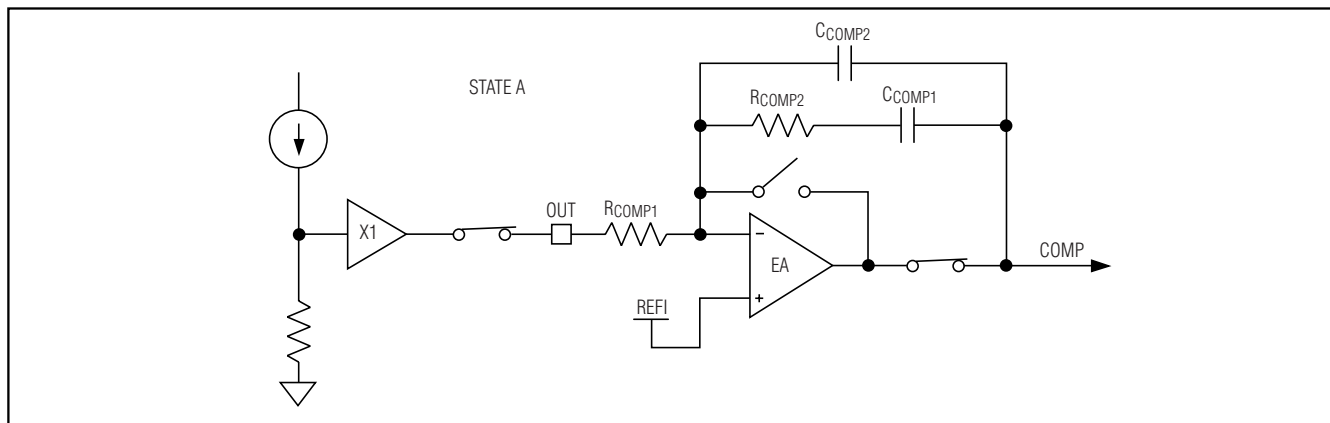
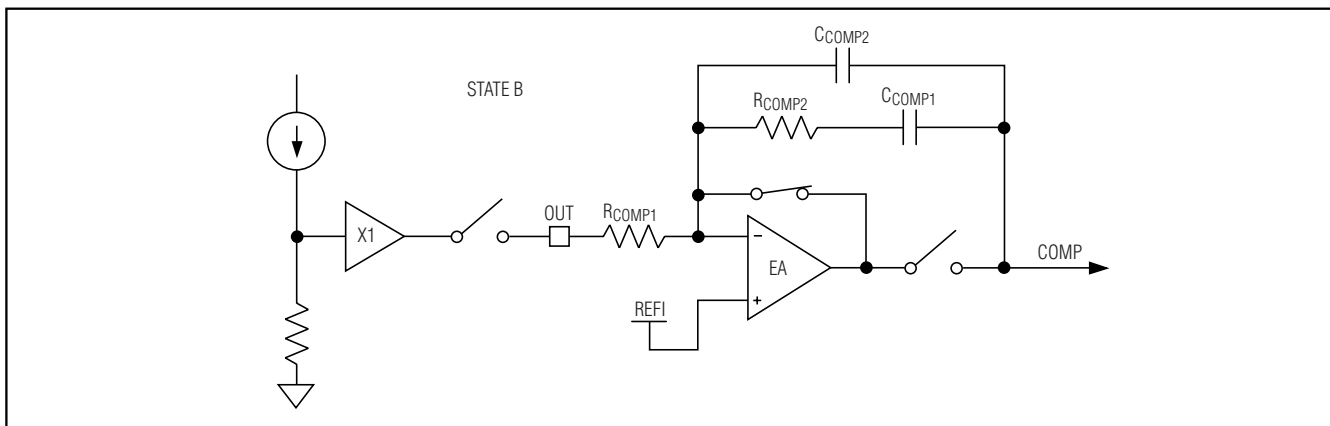
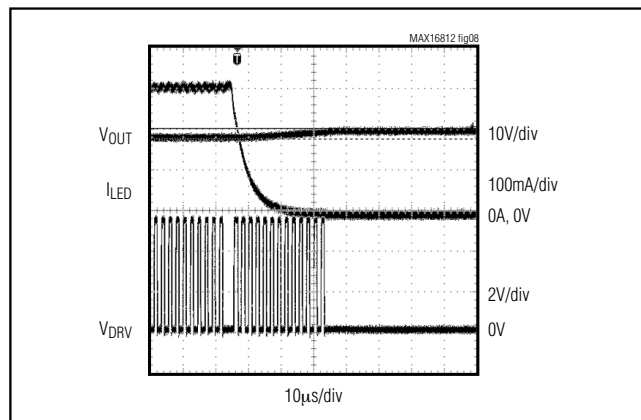

Figure 4. Internal Error Amplifier Connection (Dimming Signal High)
Figure 5. Internal Error Amplifier Connections (Dimming Signal Low)
Figure 8. LED Current, Output Voltage, and DRV Waveforms when DIM Signal Goes Low
The MAX16812 includes a built-in voltage-error amplifier, which can be used to close the feedback loop. The internal LED current-sense output signal is buffered internally and then connected to CS_OUT through an internal switch. CS_OUT is connected to the inverting input (FB) pin of the error amplifier through a resistor. See Figures 4 and 5. The reference voltage for the output current is connected to REF1, the noninverting input of the error amplifier. When the internal dimming signal
is low, COMP is disconnected from the output of the error amplifier and CS_OUT is simultaneously disconnected from the buffered LED current-sense output signal (Figure 5). When the internal dimming signal is high, the output of the op amp is connected to COMP and CS_OUT is connected to the buffered LED current-sense signal at the same time (Figure 4). This enables the compensation capacitor to hold the charge when the DIM signal has turned off the internal switching MOSFET gate drive. To maintain the charge on the compensation capacitors CCOMP1 and CCOMP2, the capacitors should be of the low-leakage ceramic type.
PWM dimming can also be achieved by connecting TGRM to a DC voltage less than V_{REF} and applying the PWM signal at DIM. The moment the internal dimming signal goes low, gate drive DRV to the internal switching MOSFET is turned off. The error amplifier goes to state B (see the *Internal Error Amplifier* section and Figures 4 and 5). The peak current in the inductor prior to disabling DRV is I_{LX} . Gate drive DGT to the external dimming MOSFET is held high. Then after a switchover period, gate voltage V_{DGT} on the external dimming MOSFET is linearly controlled to reduce the LED current to 0. The fall time of the LED current is controlled by an internal timing circuit to 5μs for the MAX16812. During this period, the gate (DRV) to the internal switching MOSFET is enabled. After the fall time, the gate drive to the external dimming MOSFET is turned off and the gate drive to the internal switching MOSFET is still held high after the switchover period. The peak current in the inductor is controlled at I_{LX} . Then after a time period of 20μs, the gate drive is disabled. The scope shots in Figures 8–11 show the dimming waveforms.
When the DIM signal goes high, the LED current is gradually increased to the programmed value. The rise time of the LED current is controlled to $5\mu\text{s}$ for the MAX16812 by controlling the voltage on DGT. After the rise time, an internal sensing circuit monitors the voltage across the drain to the source of the external dimming MOSFET. The LED current is now controlled at the programmed value by a linear current regulating circuit. Once the voltage across the drain to source of the dimming MOSFET drops below 0.5V , the reference for the linear current regulating circuit is increased to 1.1 times the programmed value. The gate drive (DRV) to the internal switching MOSFET is enabled and the error amplifier is returned to state A (see the *Internal Error Amplifier* section and Figures 4 and 5).